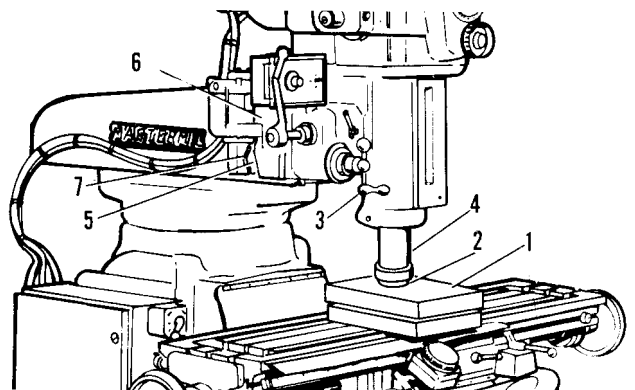

Figure 16. Removing Spindle
See figure 16 for the following steps.
43. REPLACING SLIP CLUTCH (figure 16)